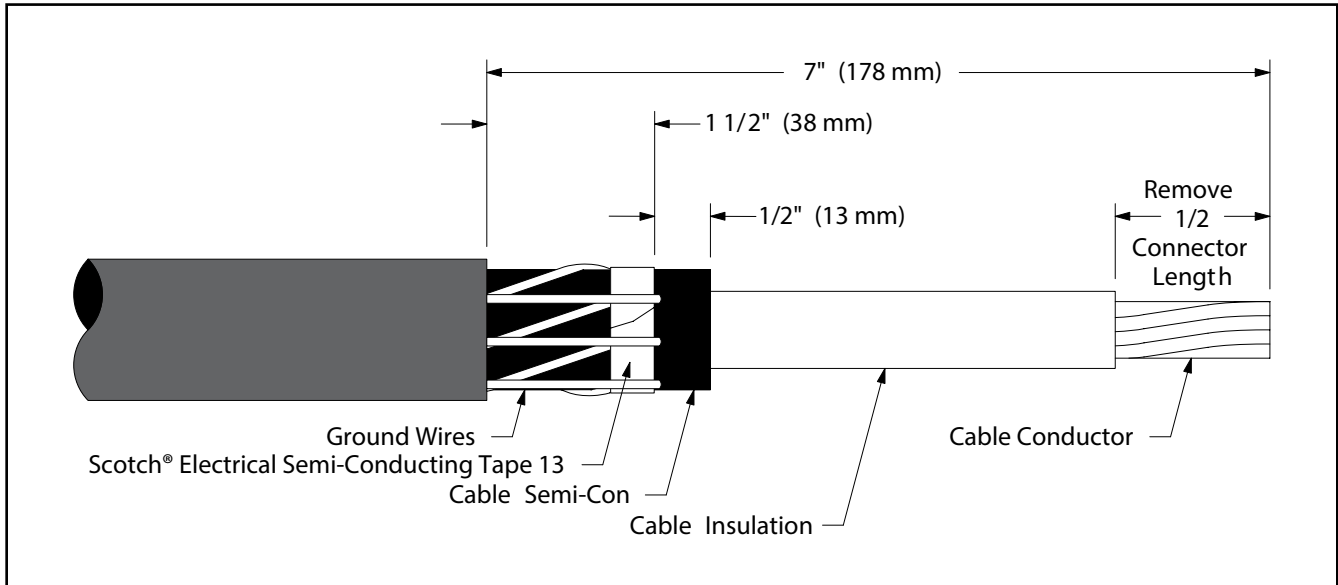

Figure 3
- Remove jacket a distance of 7" (178 mm) (Figure 3).
- Wrap 2 full wraps Scotch® Electrical Semi-Conducting Tape 13 over ground wires, 1 1/2" (38 mm) from cable jacket ends (Figure 3).
- Bend ground wires back over 13 tape and cut off wires at jacket edge (Figure 3).
- Remove cable semi-con layer as shown (Figure 3).
- Remove cable insulation from cable ends for a distance of 1/2 connector length (Figure 3).